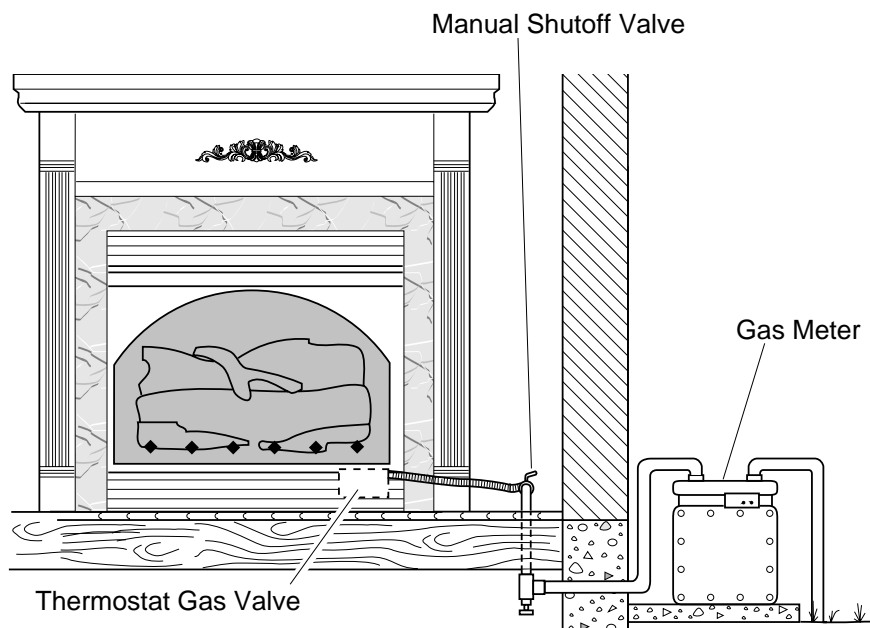

Figure 20 - Checking Gas Joints
3. Check all joints from gas meter to manual shutoff valve (see Figure 20). Apply mixture of liquid soap and water to gas joints. Bubbles forming show a leak.
4. Check all joints from manual shutoff valve to thermostat gas valve (see Figure 20). Apply mixture of liquid soap and water to gas joints. Bubbles forming show a leak.